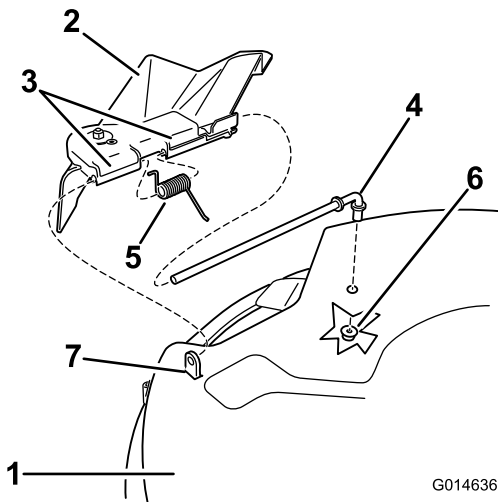
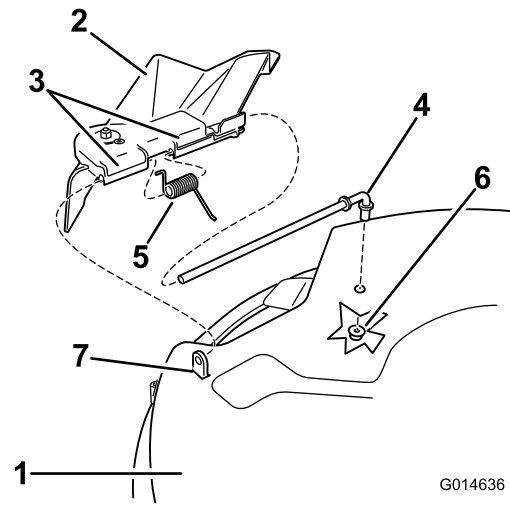

Figure 62
Figure 63
1. Remove the nut (3/8 inch) from the rod under the mower (Figure 62 and Figure 63).
2. Slide the rod out of the short stand-off, spring, and grass deflector (Figure 62 and Figure 63).
4. Replace the grass deflector (Figure 62 and Figure 63).
7. Slide the rod through second grass deflector bracket (Figure 62 and Figure 63).
9. Secure the rear end of the rod into the mower with a nut (3/8 inch) as shown in Figure 62 and Figure 63.